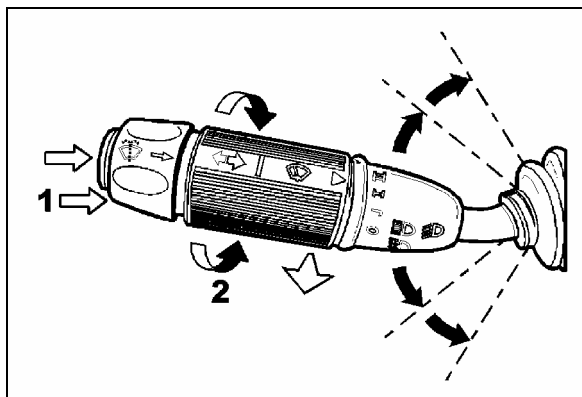

FIGURE 39: MULTIFUNCTION LEVER 23133
7. Loosen the bolt retaining the lever at the end of the motor driving shaft (Fig. 39).